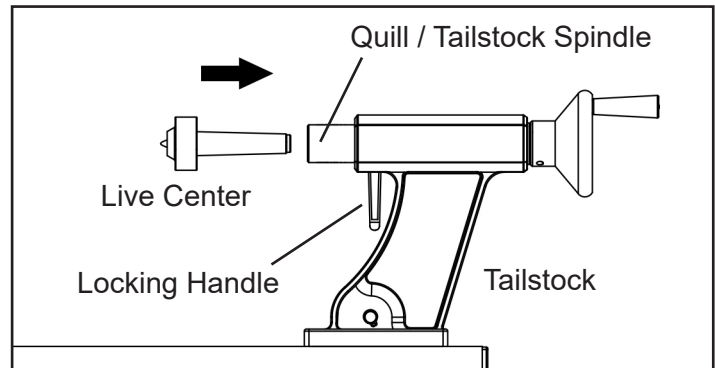

FIG. 7
2. Insert the Live Center into the tailstock Quill/ Spindle. This center and also the quill have No. 2 Morse Tapers. Make sure that the mating surfaces of both are smooth and clean. FIG. 7.